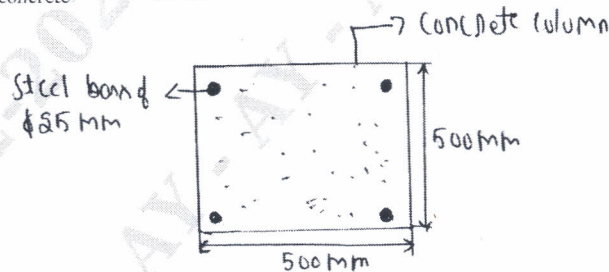

Fig.Q.2(c)
- c. A reinforced concrete column  $500\text{ mm} \times 500\text{ mm}$  in section is reinforced with four steel bars of 25 mm diameter one in each corner. The column is carrying a load of 1000 kN. Find the stresses in the concrete and steel bars as shown in Fig.Q.2(c). Take, Young's modulus for  $E_{\text{steel}} = 210\text{ GPa}$  and  $E_{\text{concrete}} = 14\text{ GPa}$ . (08 Marks)